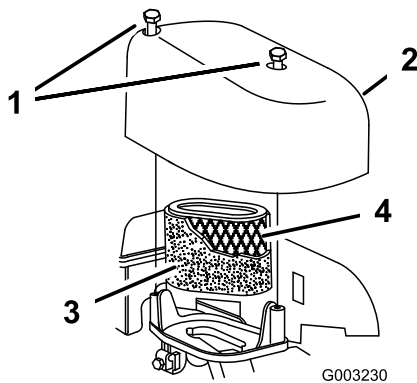

Figure 34
2. Remove the screws that secure the air filter cover (Figure 34).